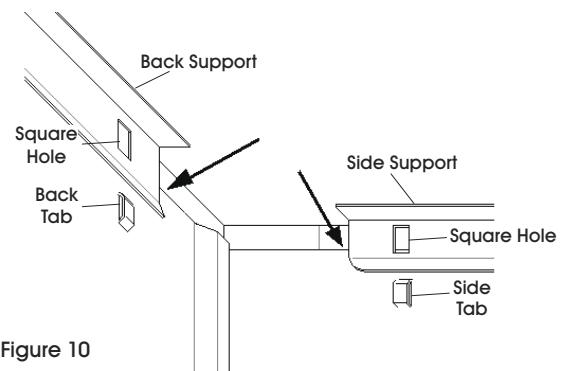

Figure 10
3. Check under the top to make certain that the side and back panels are inside the supports. (See Figure 10)